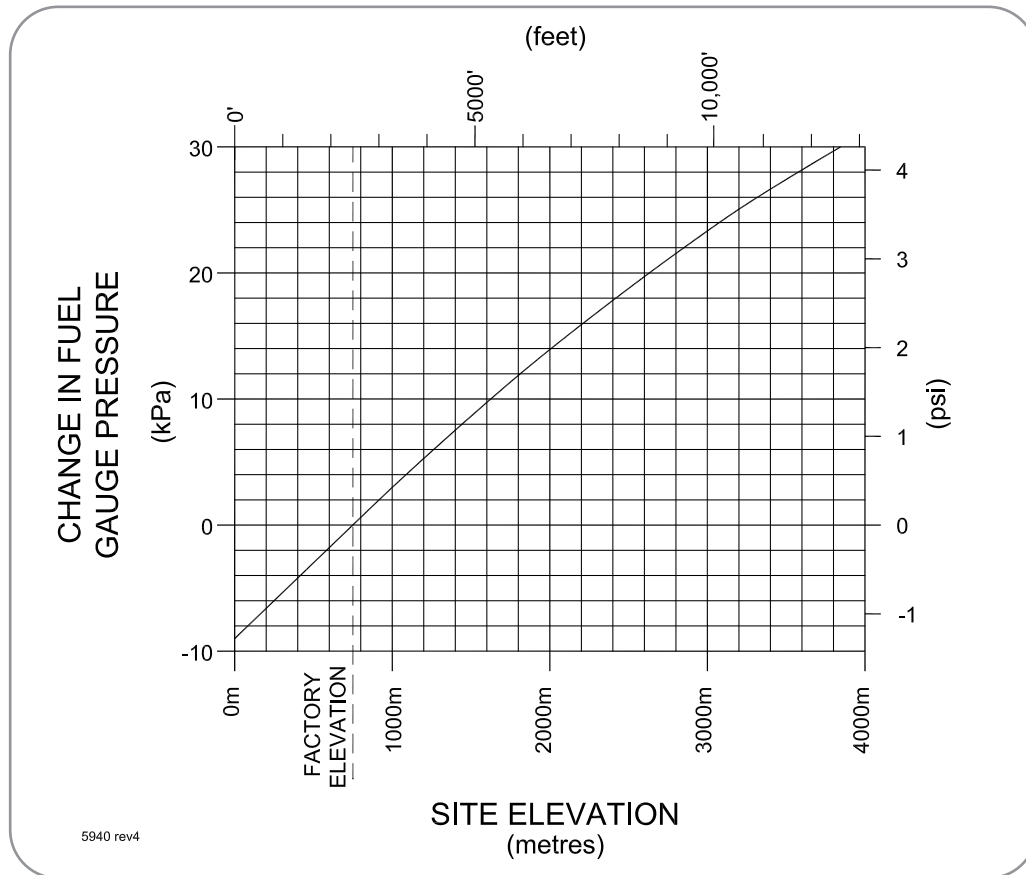

Figure 9 Change in Fuel Pressure Vs Elevation
- 2.3.2 If required, correct the factory set fuel pressure for the elevation as per Figure 9, **Change in Fuel Pressure Vs. Elevation**.